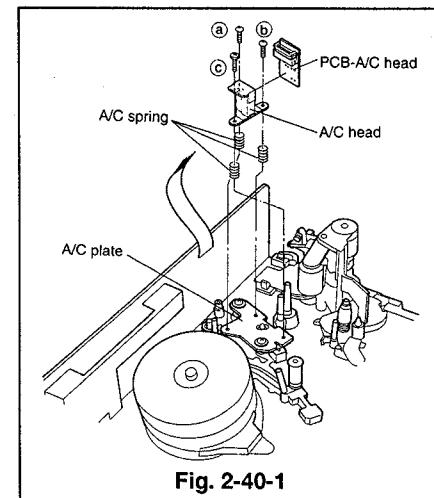

Fig. 2-40-1
- ① Disconnect the lead connector connected to the PCB-A/C-HEAD. (Refer to Item ① of Para. 2-39 for the removal method.)
- ② Remove the three screws(Ⓐ,Ⓑ and Ⓑ), shown in Fig. 2-40-1 to remove the A/C head.
- ③ Unsolder the PCB-A/C HEAD from the A/C head.(Refer to Fig. 2-40-1.)
- ① Install the A/C head with the A/C spring and the three screws(Ⓐ,Ⓑ and Ⓑ) as shown in Fig. 2-40-1.